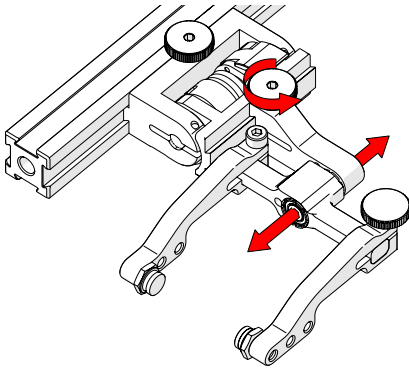

Fig. 104 - Adjust swing arm
3. Use swing arm knob to position the swing arm (Fig. 104).